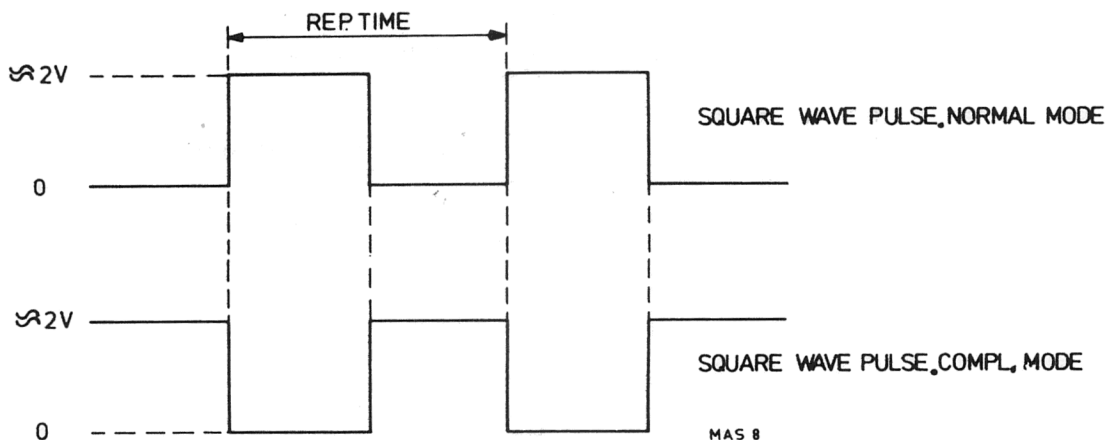

Fig. VI-12 Square wave PM 5704
- Observe one normal TTL pulse and its complement similar to fig. VI-12.